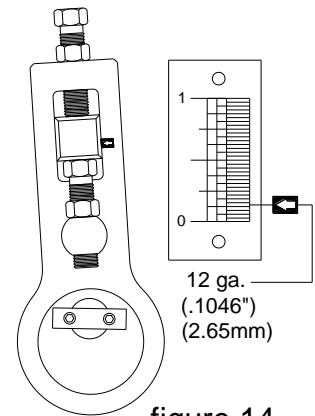

figure 14
1. Set the clamping beam to the thickness of the material you will be bending. (fig. 14) shows the adjusting bolts set for 14 ga. as read on the gauge. See the section on clamping beam pressure adjustments for setting the bolts.